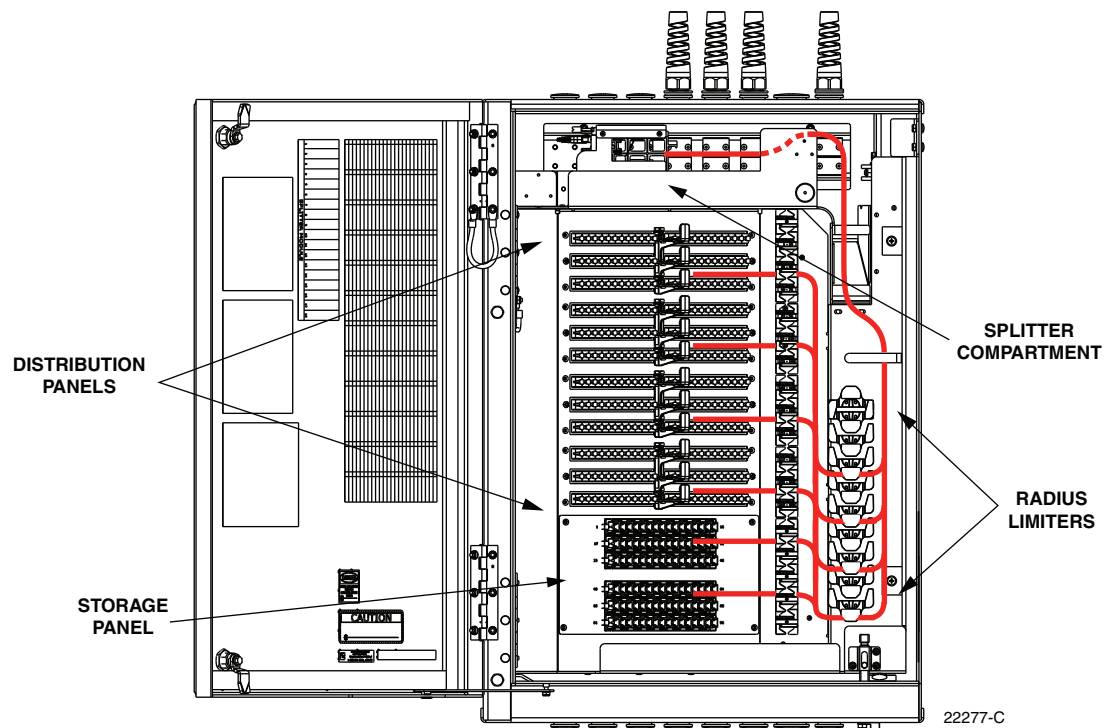

Figure 51. Routing Splitter Output Fibers
3. Use the radius limiters on the right side of the cabinet to store any excess fiber slack. Refer to Figure 51 for the routing guidelines.
6. Use the radius limiters on the right side of the cabinet to store any excess fiber slack. Refer to Figure 51 for the routing guidelines.